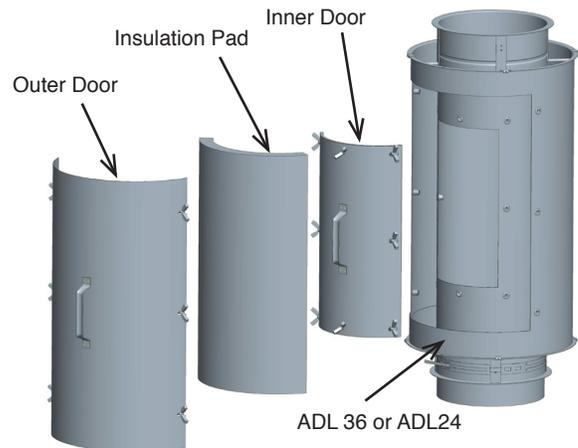

Figure 48: Step 4-5 of Removal for Inspection for the ADL
- 5- Remove the Inner cover and set it in a safe place. See **Figure 48**